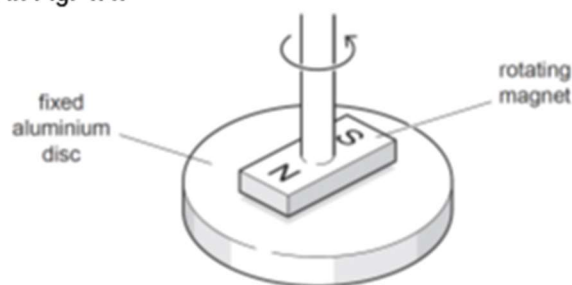

Fig. 4.4
- (b) A bar magnet is held a small distance above the surface of an aluminium disc by means of a rod, as illustrated in Fig. 4.4.